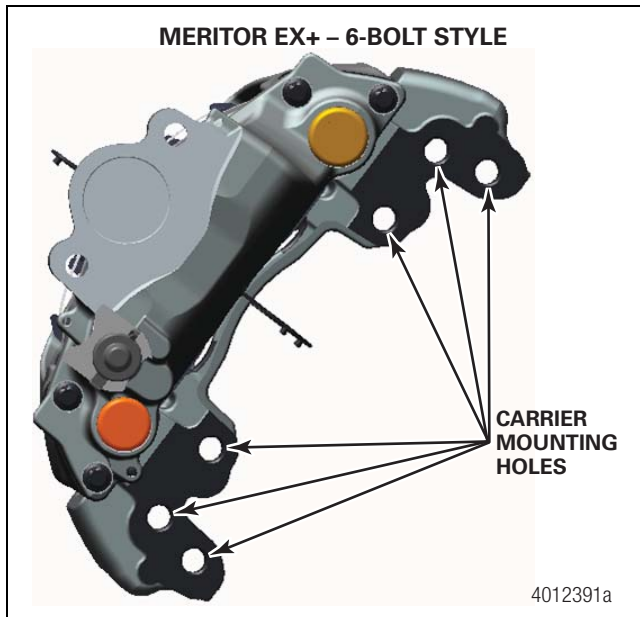
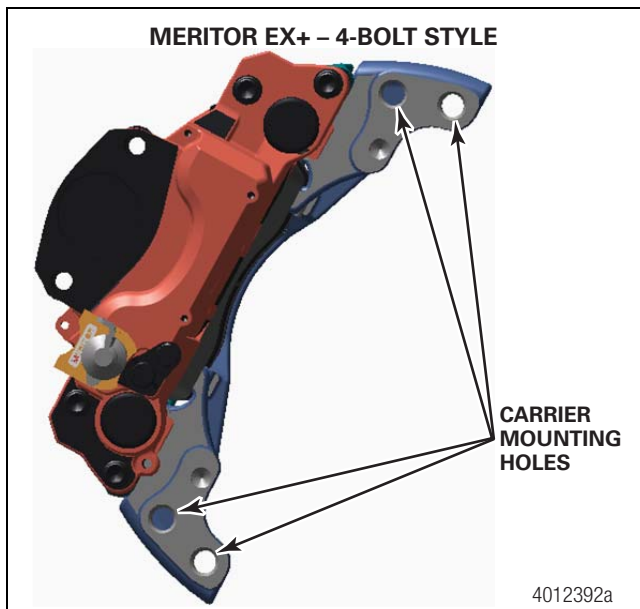
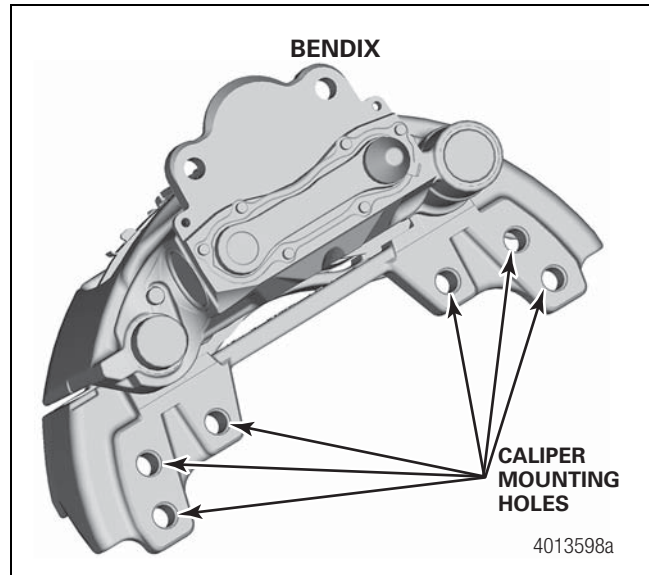
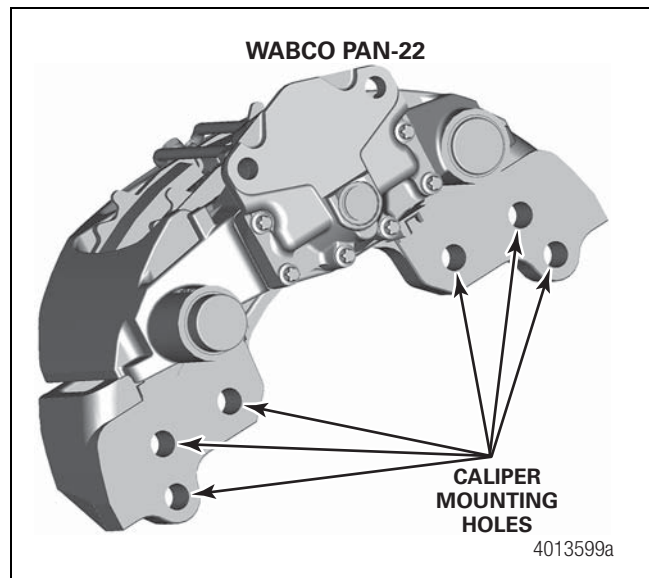

Figure 2
Figure 3
Figure 4
Figure 5
3. Locate the carrier mounting bolts and check if any of the bolts are missing. Figure 2, Figure 3, Figure 4 and Figure 5.